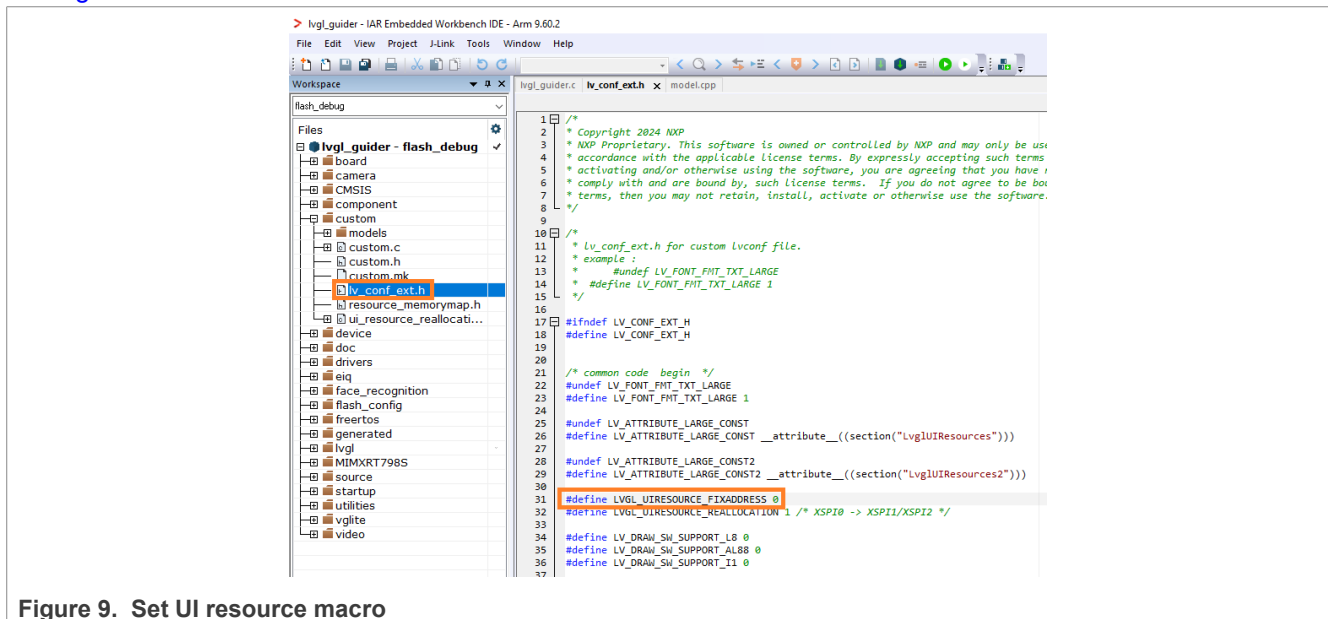

Figure 9. Set UI resource macro
6. Then, go to **custom\lv_conf_ext.h** and change **LVGL_UIRESOURCE_FIXADDRESS** to **0** as shown in Figure 9.